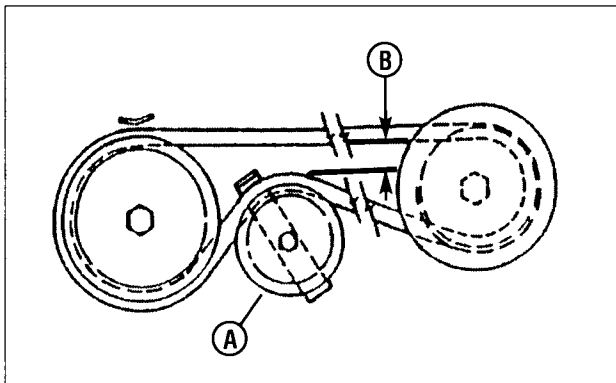

Figure 36: Measuring the belt spacing
3. Place the deck cutting height lever in the third position (middle notch). Measure the belt spacing (**B, Figure 36**) between the idler pulley (**A**) and belt. The distance should measure 1-1/4" but no less than 1".